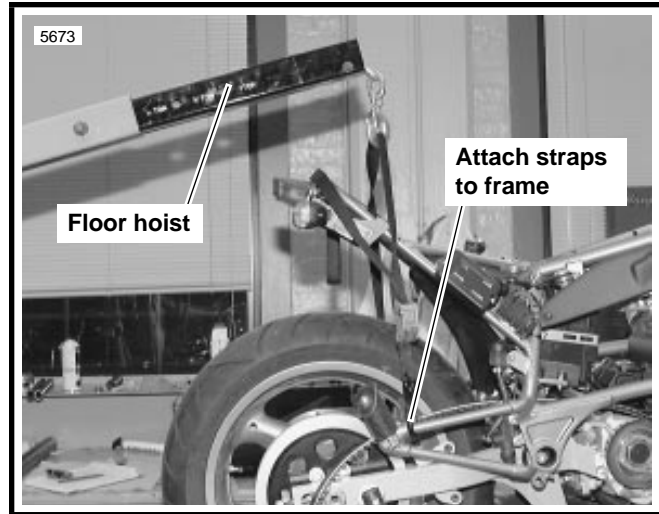

Figure 6-6. Floor Hoist
11. See Figure 6-6. Place a floor hoist behind the lift. Attach straps to frame and hoist. Raise hoist until straps tighten.